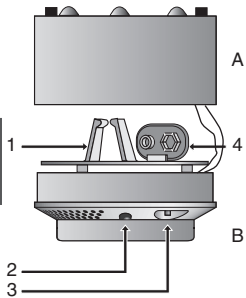

Fig. 1 Putting into service
- Remove the water detector (Fig. 1, B) from its base (A) by turning it anti-clockwise.
- Attach the 9 V rectangular battery to the connector (4) and insert it into the battery holder (1).